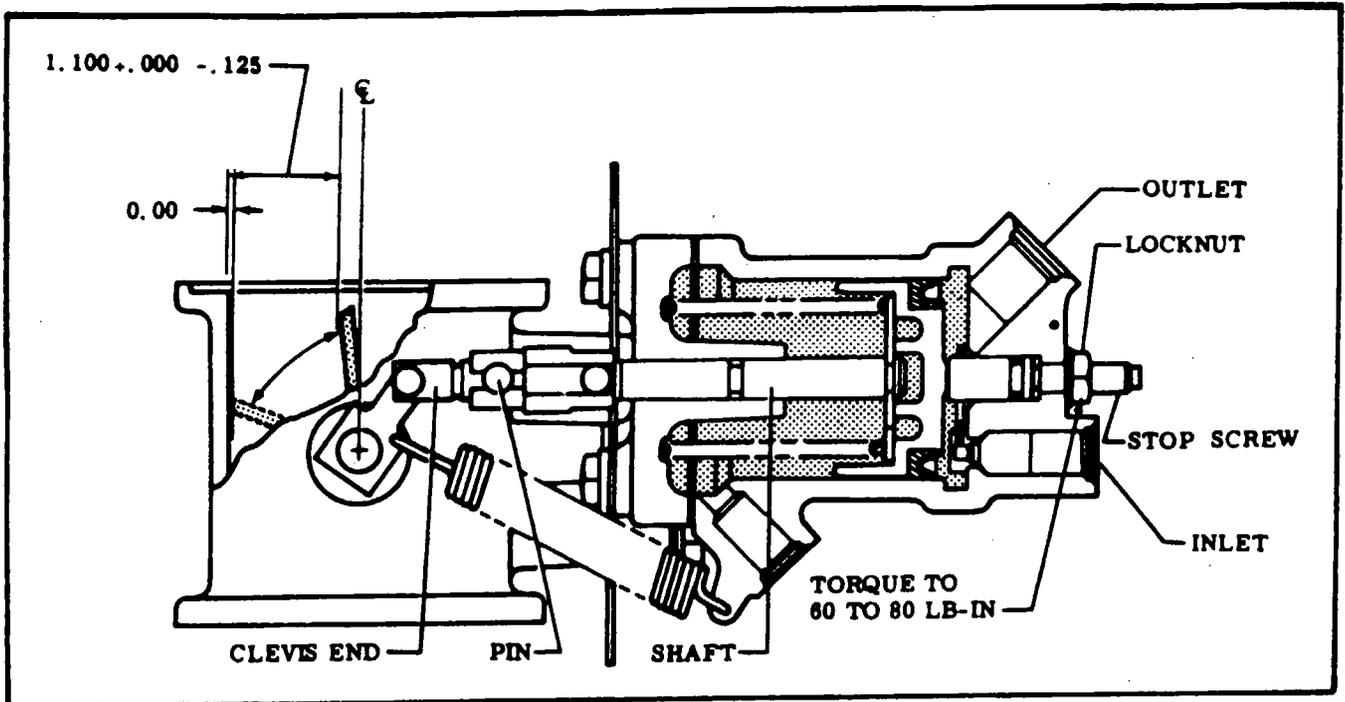

Figure 12-19. Waste-Gate Adjustment
- d. Check for 0.00 inch gap between butterfly and wastegate body as shown in figure 12-19.
- g. After adjusting closed position and with zero pressure in cylinder, check butterfly for a clearance of 1.100 inch, +.000 or -.125 inch in the full open position as shown in figure 12-19.